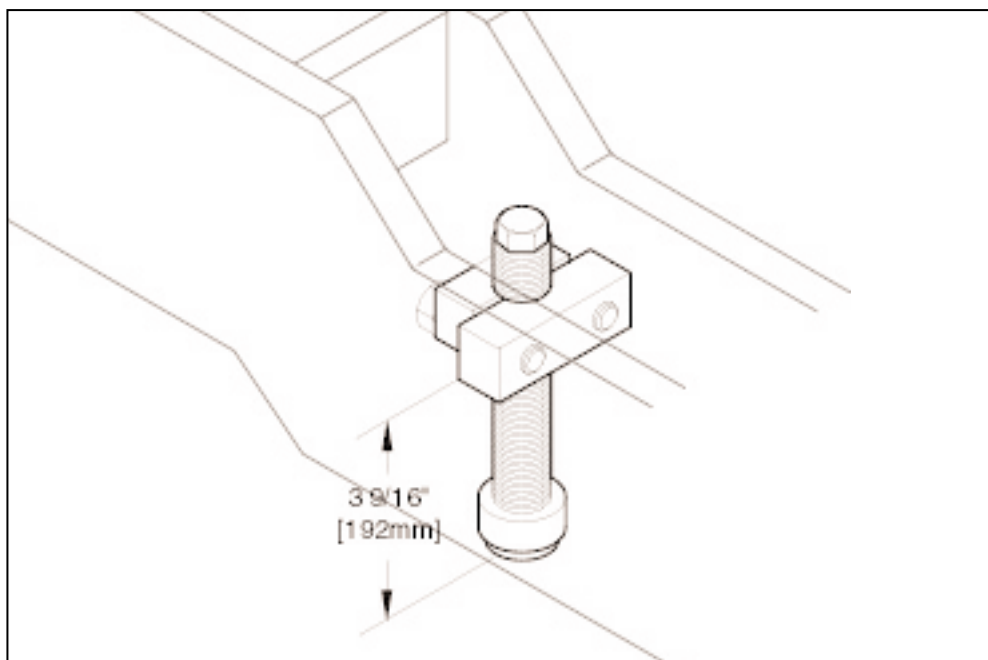

Figure 4.49 ADJUSTING STRIPPER HEAD SHOCK ABSORBERS
- 4.4.4 Adjust the stripper head shock absorbers to a dimension of **3 3/16" [81mm]** from the bottom of the clamp blocks to the bottom of the rubber pads (see figure 4.49).